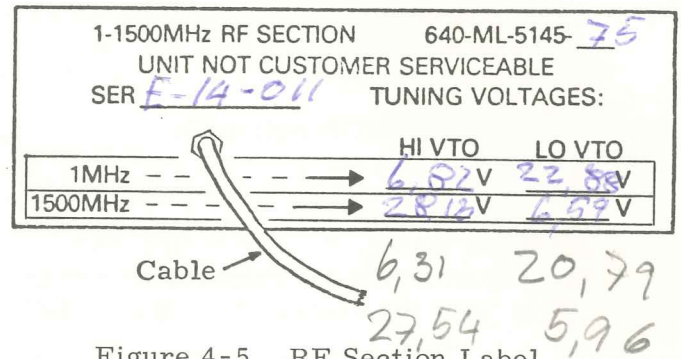

Figure 4-5. RF Section Label for Tuning Voltages
7. Locate the 1-1500 MHz RF Section and record from the label the four tuning voltages (Figure 4-5).